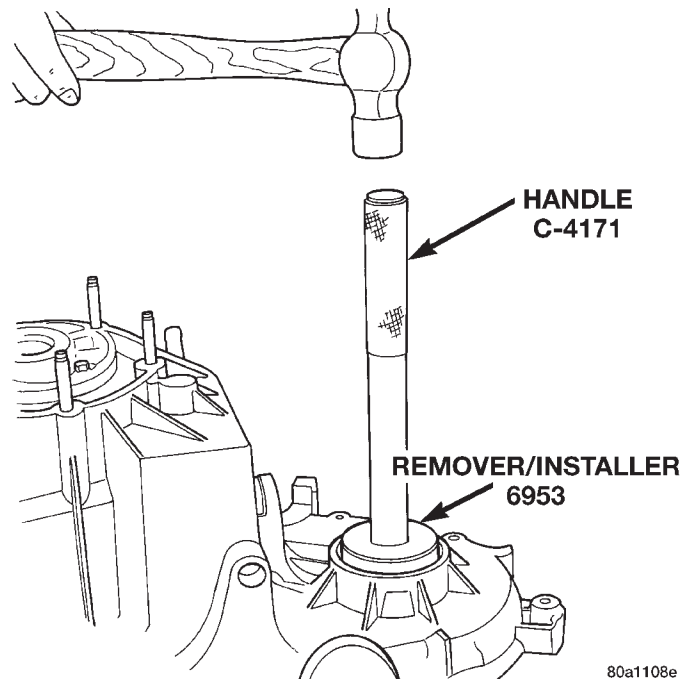

Fig. 42 Remove Output Shaft Front Bearing
(3) Using tool 6953, remove bearing from front case (Fig. 42).
(4) Using tool 6953, install new bearing.